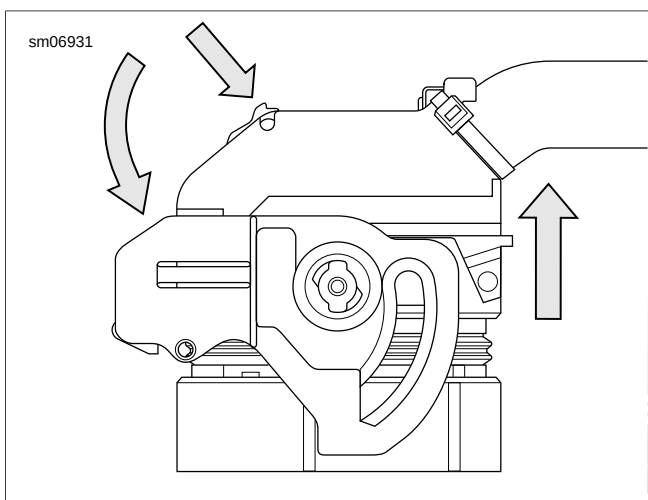

Figure A-41. Release
**Release:** See Figure A-41. Press the catch and rotate the lever arm down.